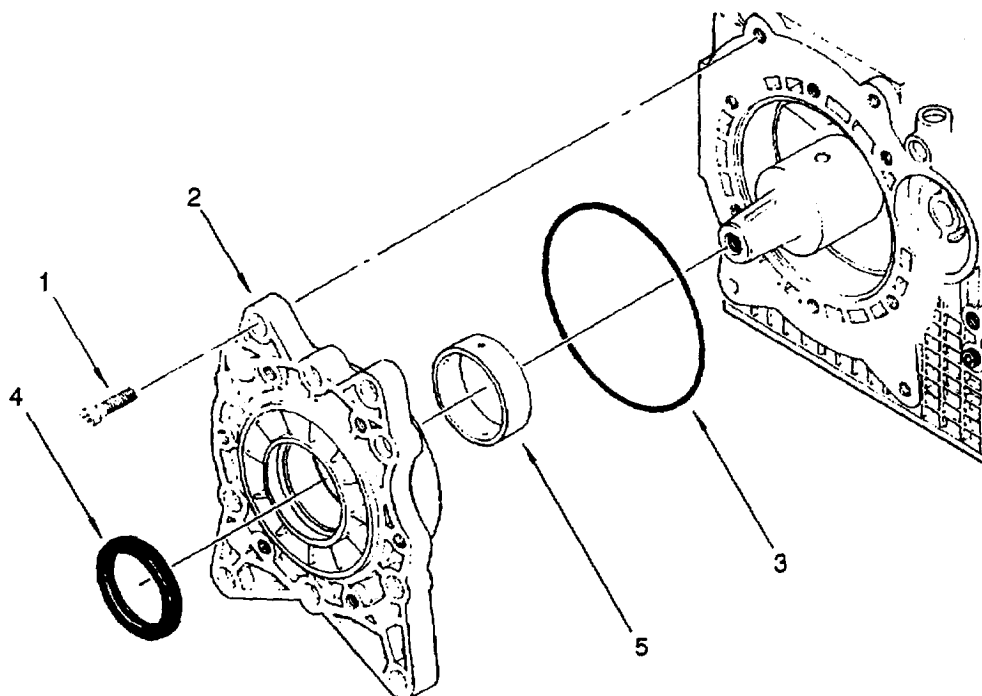

Figure 6-18. Rear Crankshaft Support Removal
6.3.17 Remove Rear Crankshaft Support. (Refer to figure 6-18)